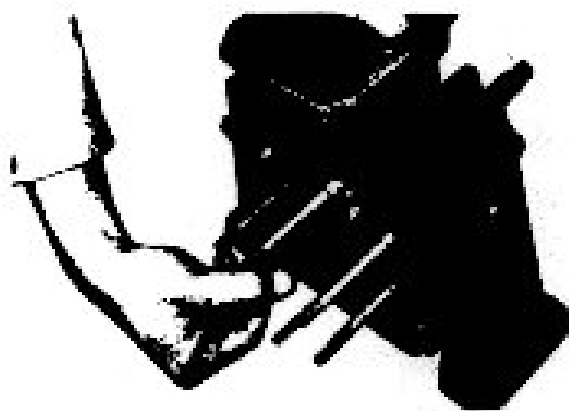

Fig. 3-12.
- 18) Drive out the reduction shift fork spring pin from inside of the transfer case with the special tool (spring pin puller-09922-85810) and withdraw the reduction shift shaft as shown in the Fig. 3-12. When removing the reduction shift shaft, NEVER turn it, or the gear shift locating ball will be rolled into the slot in the reduction shift shaft wedging the shaft in position.